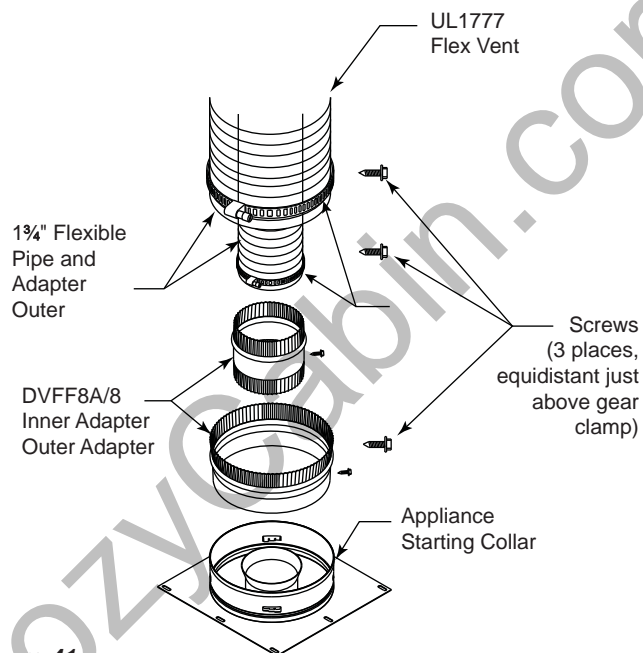

Figure 41 -
2. The flex adapter starter kit (DVFF8A/8) is used to attach flex venting to the appliance starting collar. It includes 5" inner and 8" outer adapter rings. *Figure 41*
A. Installing the inner flex adapter and pipe. *Figure 41*
- B. Installing the outer flex pipe. *Figure 41*